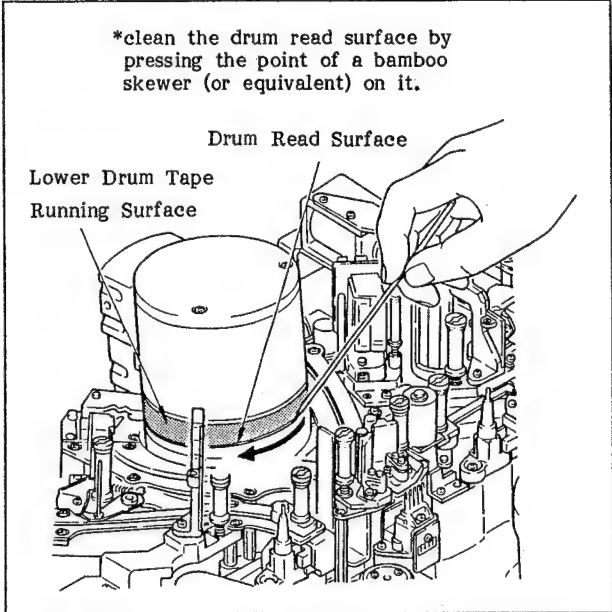

Fig. 5-3 Cleaning the Lower Drum Read Surface and the Tape Running Surface
1. If magnetic powder is attracted to the drum read surface, shown in Fig. 5-3, it may affect the tracking. Remove the magnetic powder with a bamboo skewer (or equivalent) by moving it along the drum read surface, as shown in the figure.